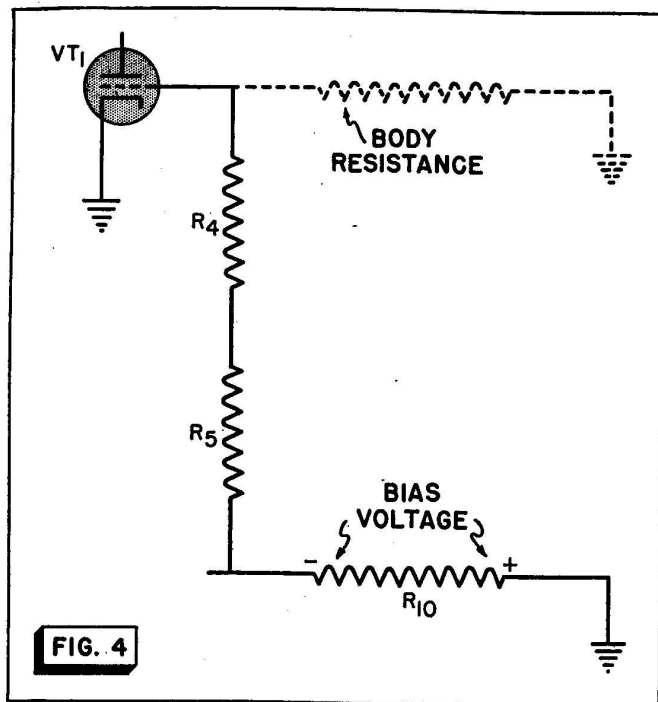

FIG. 4
► To see why touching your hand to the top cap of  $VT_1$  and to the chassis reduces the bias on the tube, examine the circuit shown in Fig. 4. This shows the essential bias supply circuit of  $VT_1$  in Fig. 3, which consists of the supply resistor  $R_{10}$  and the series resistors  $R_4$  and  $R_5$ . Ordinarily, when no d.c. current flows in this grid circuit, resistors  $R_4$  and  $R_5$  have no effect on the grid bias voltage; all the bias voltage developed across  $R_{10}$  is applied to the grid of  $VT_1$ .
However, touching your hand to the chassis and to the tube top cap effectively connects a resistance (the resistance of your hand) between the grid and the chassis. This resistance is shown by dotted lines in Fig. 4. Notice that now there is a complete d.c. path from  $R_{10}$  through  $R_5$ ,  $R_4$ , and the resistance of your hand to the